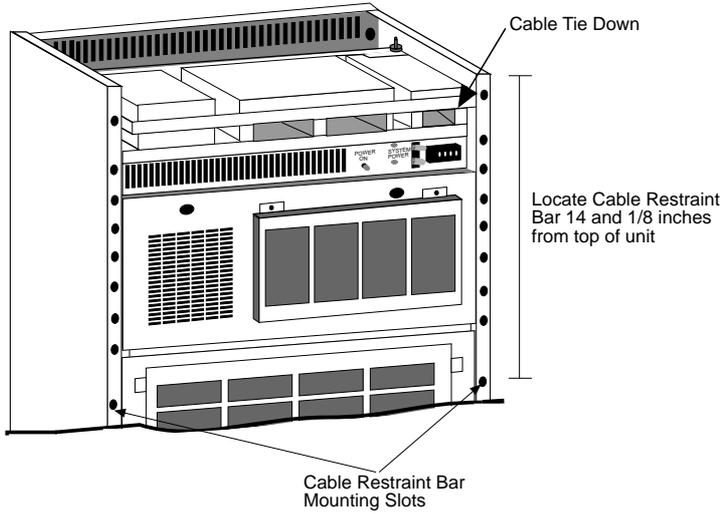

Figure 2-25. Installing the Cable Restraint Bar
10. Install the cable restraint bar on the rear of the unit, using two #10 screws in the bottommost mounting holes (Figure 2-25).
9. Install the cable restraint bar on the rear of the unit in the bottommost mounting holes (Figure 2-25).